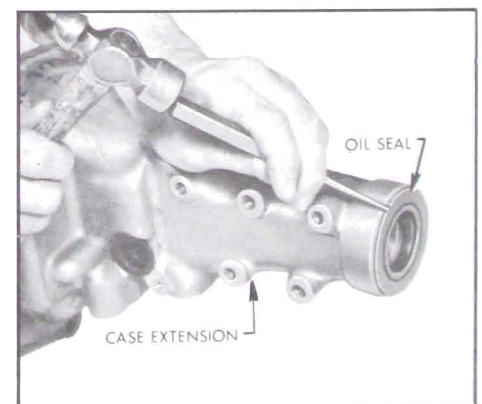

Figure 4-81—Extension Oil Seal Removal
3. Remove case extension oil seal. See Figure 4-81.